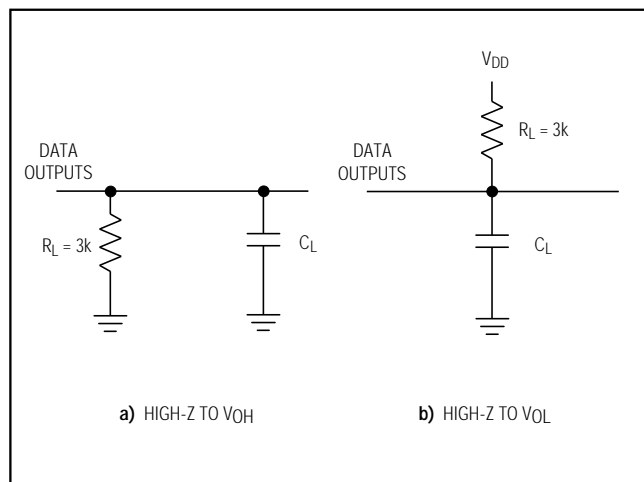

Figure 1. Load Circuits for Data-Access Time Test
**Note 5:** See Figure 1 for load circuit. Parameter defined as the time required for the output to cross 0.66V or 2.0V.